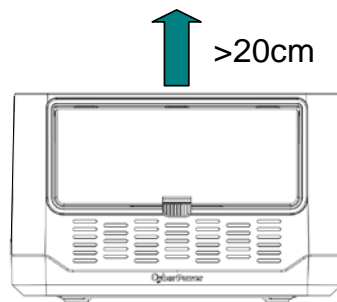

Fig. 5-2 Clearance space for installation
- 10) Notice the minimum clearances of the inverter. (Refer to 3.3 Dimensions and Fig.5.2 Required Clearances).